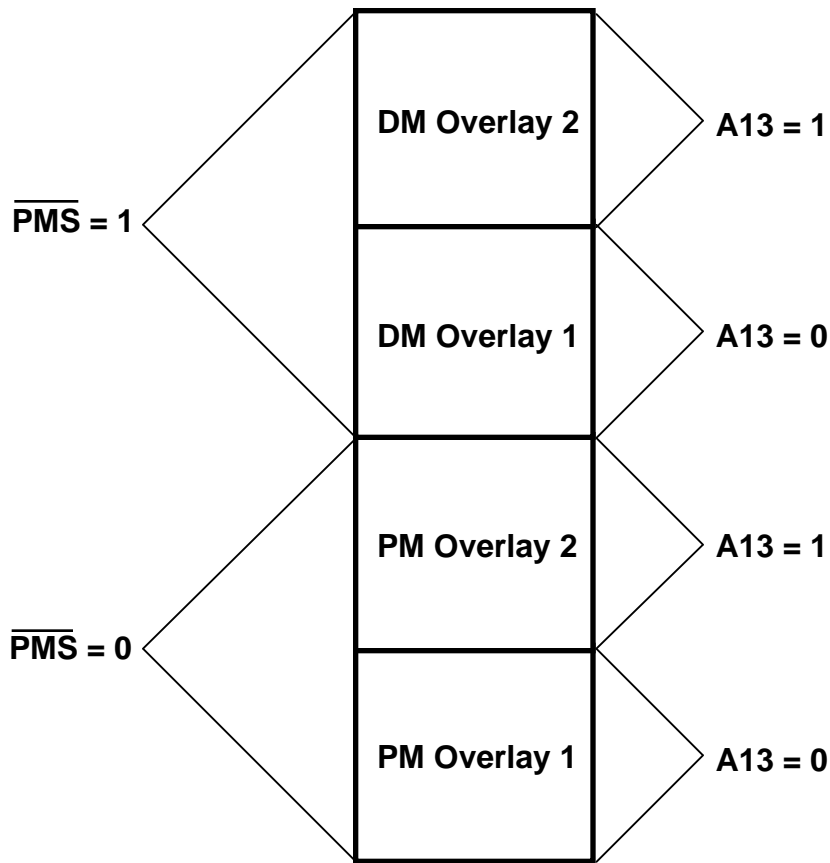

Figure 10.27 Memory Overlay Addressing For Example Design
- The order of overlays stored in this design (from lowest address to highest) is PM Overlay 1, PM Overlay 2, DM Overlay 1, and DM Overlay 2. Address line 13 (A13) of the ADSP-2181 selects between overlay 1 or 2. Figure 10.27 shows a memory map of this design.